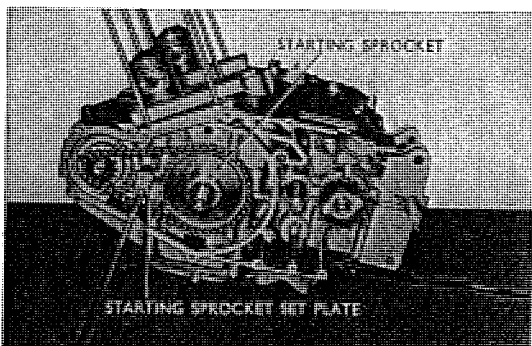

Fig. 3.49 Removing the starting sprocket set plate
2. By removing the starting sprocket set plate (6×12 screws) coupled in the lower crankcase, the sprocket can be separated from the crankshaft. (Refer to Fig. 3.49)